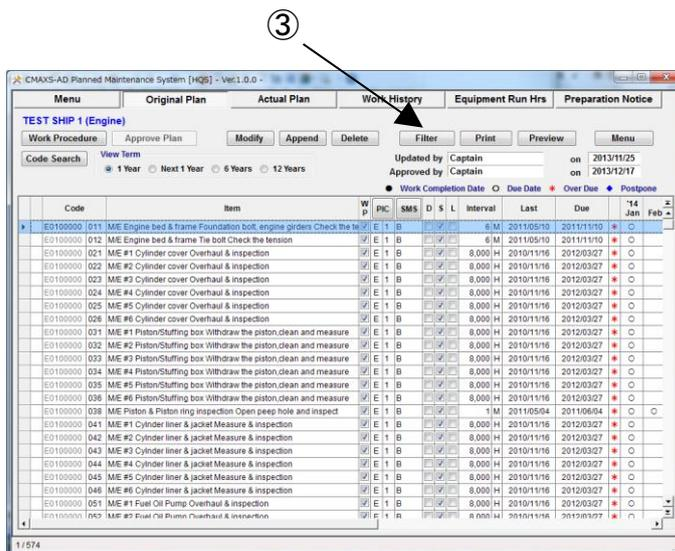

Fig.11-11 Original Plan screen
- (1) Select the [Original Plan] tab for [Menu]
- (2) [Original Plan screen] (Figure 11-11) is displayed.